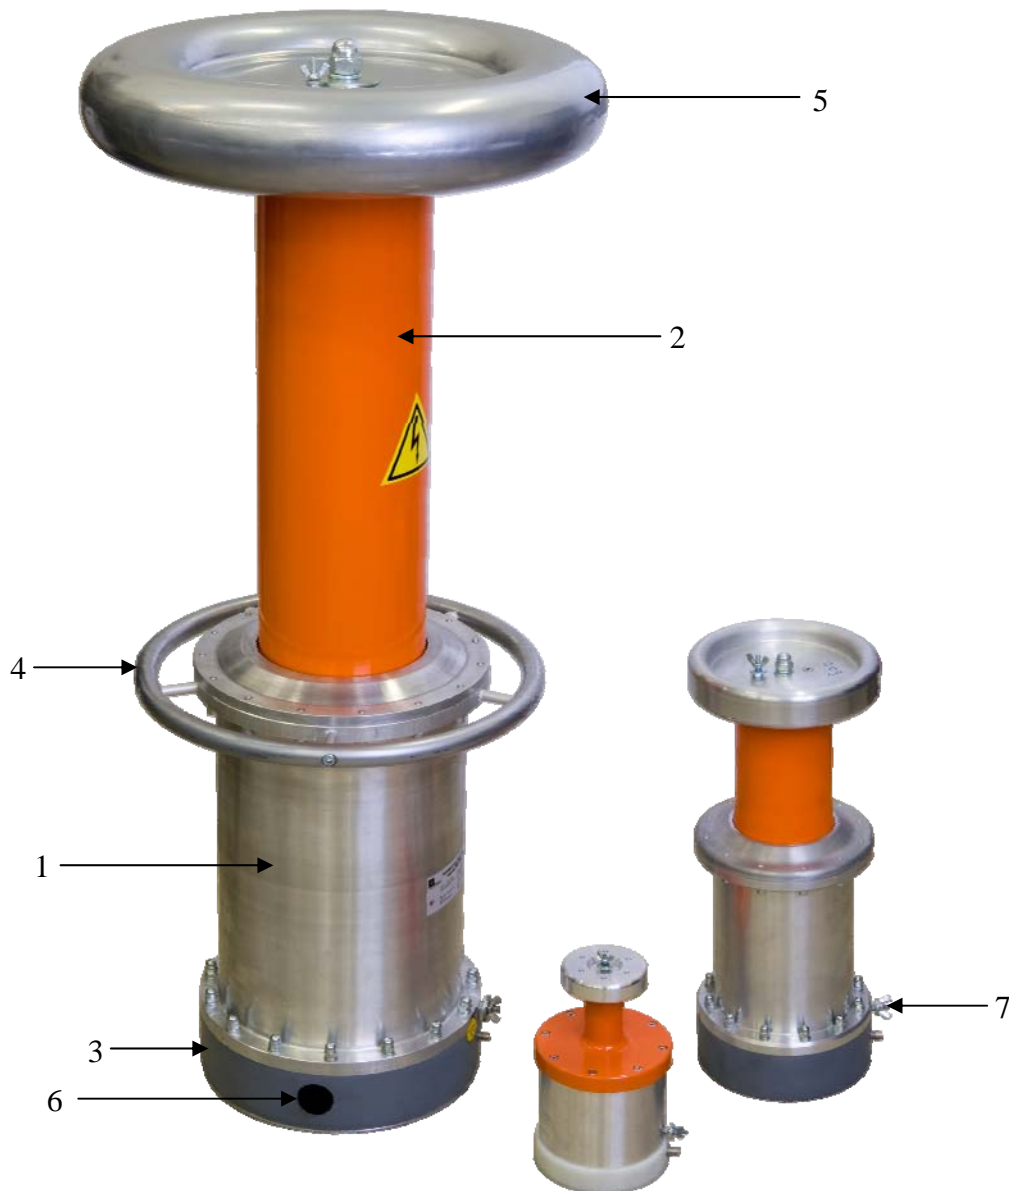

Fig. 1. General view of IHCs:
2.5.1 The IHC contains cylindrical electrodes inside the shielded case 1 (see Fig. 1), hollow cylindrical polymeric insulator 2 and basement 3. The ring shaped handle 4 is